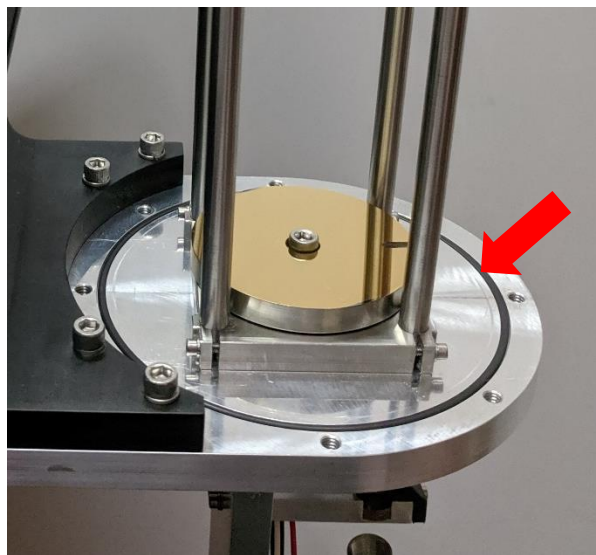

Figure 71: Herriott Cell O-ring Sitting in its Groove
11. Once maintenance is complete, inspect the cell O-ring and ensure it is sitting properly in its groove. See Figure 71.